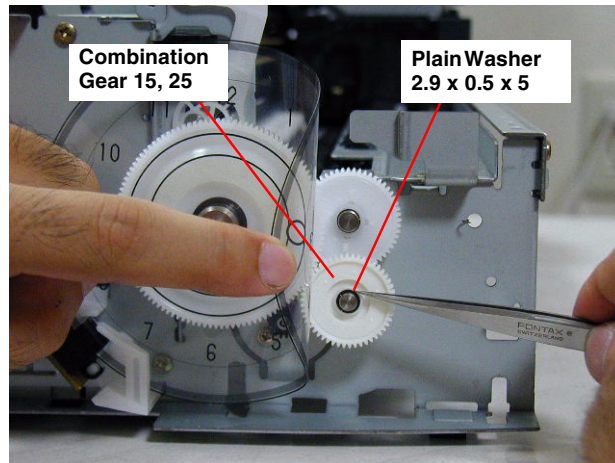

Figure 4-63. Removing the Plain Washer & Combination Gear 15,25
- 4) Remove the Plain Washer (2.9x0.5x5) from the Combination Gear 15, 25 and then remove the Combination Gear 15, 25 carefully. Refer to Figure 4-63.